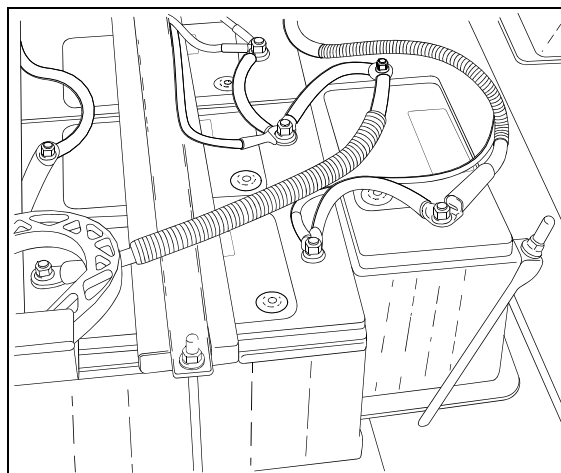

FIGURE 13: BATTERIES
The vehicle is provided with four (4) maintenance-free 12 volt heavy-duty batteries connected in series-parallel (Fig. 13). The top-mounted negative and positive terminals are tightly sealed to prevent leaks. Water never needs to be added to this type of battery. There are no filler caps in the cover. The battery is sealed, except for small vent holes in the cover. The vents must not be restricted as they allow small amounts of gases produced in the battery to escape. The special chemical composition inside the battery reduces gassing to a very small amount at normal charging voltages. Besides reducing gassing, the special chemistry greatly reduces the possibility of overcharge damage.